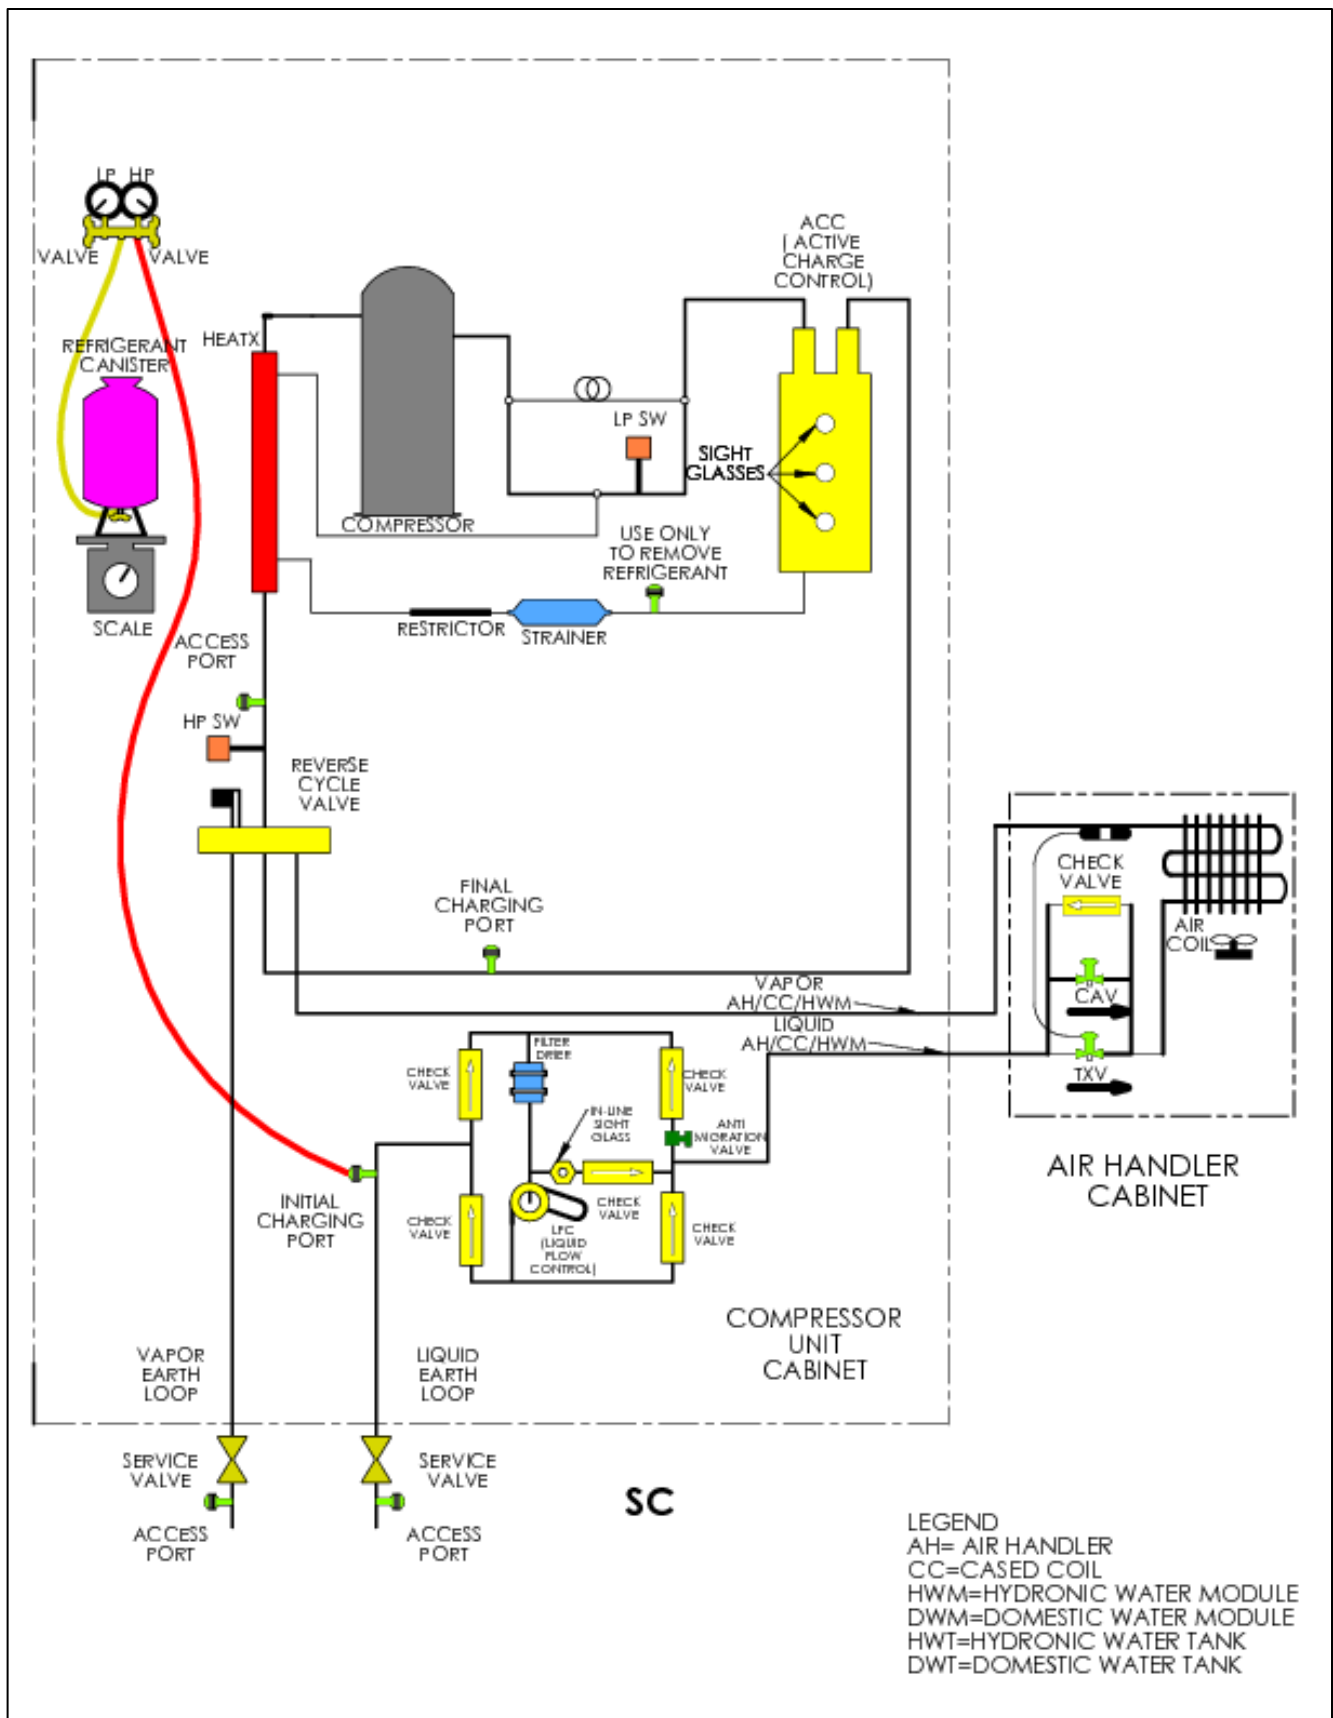
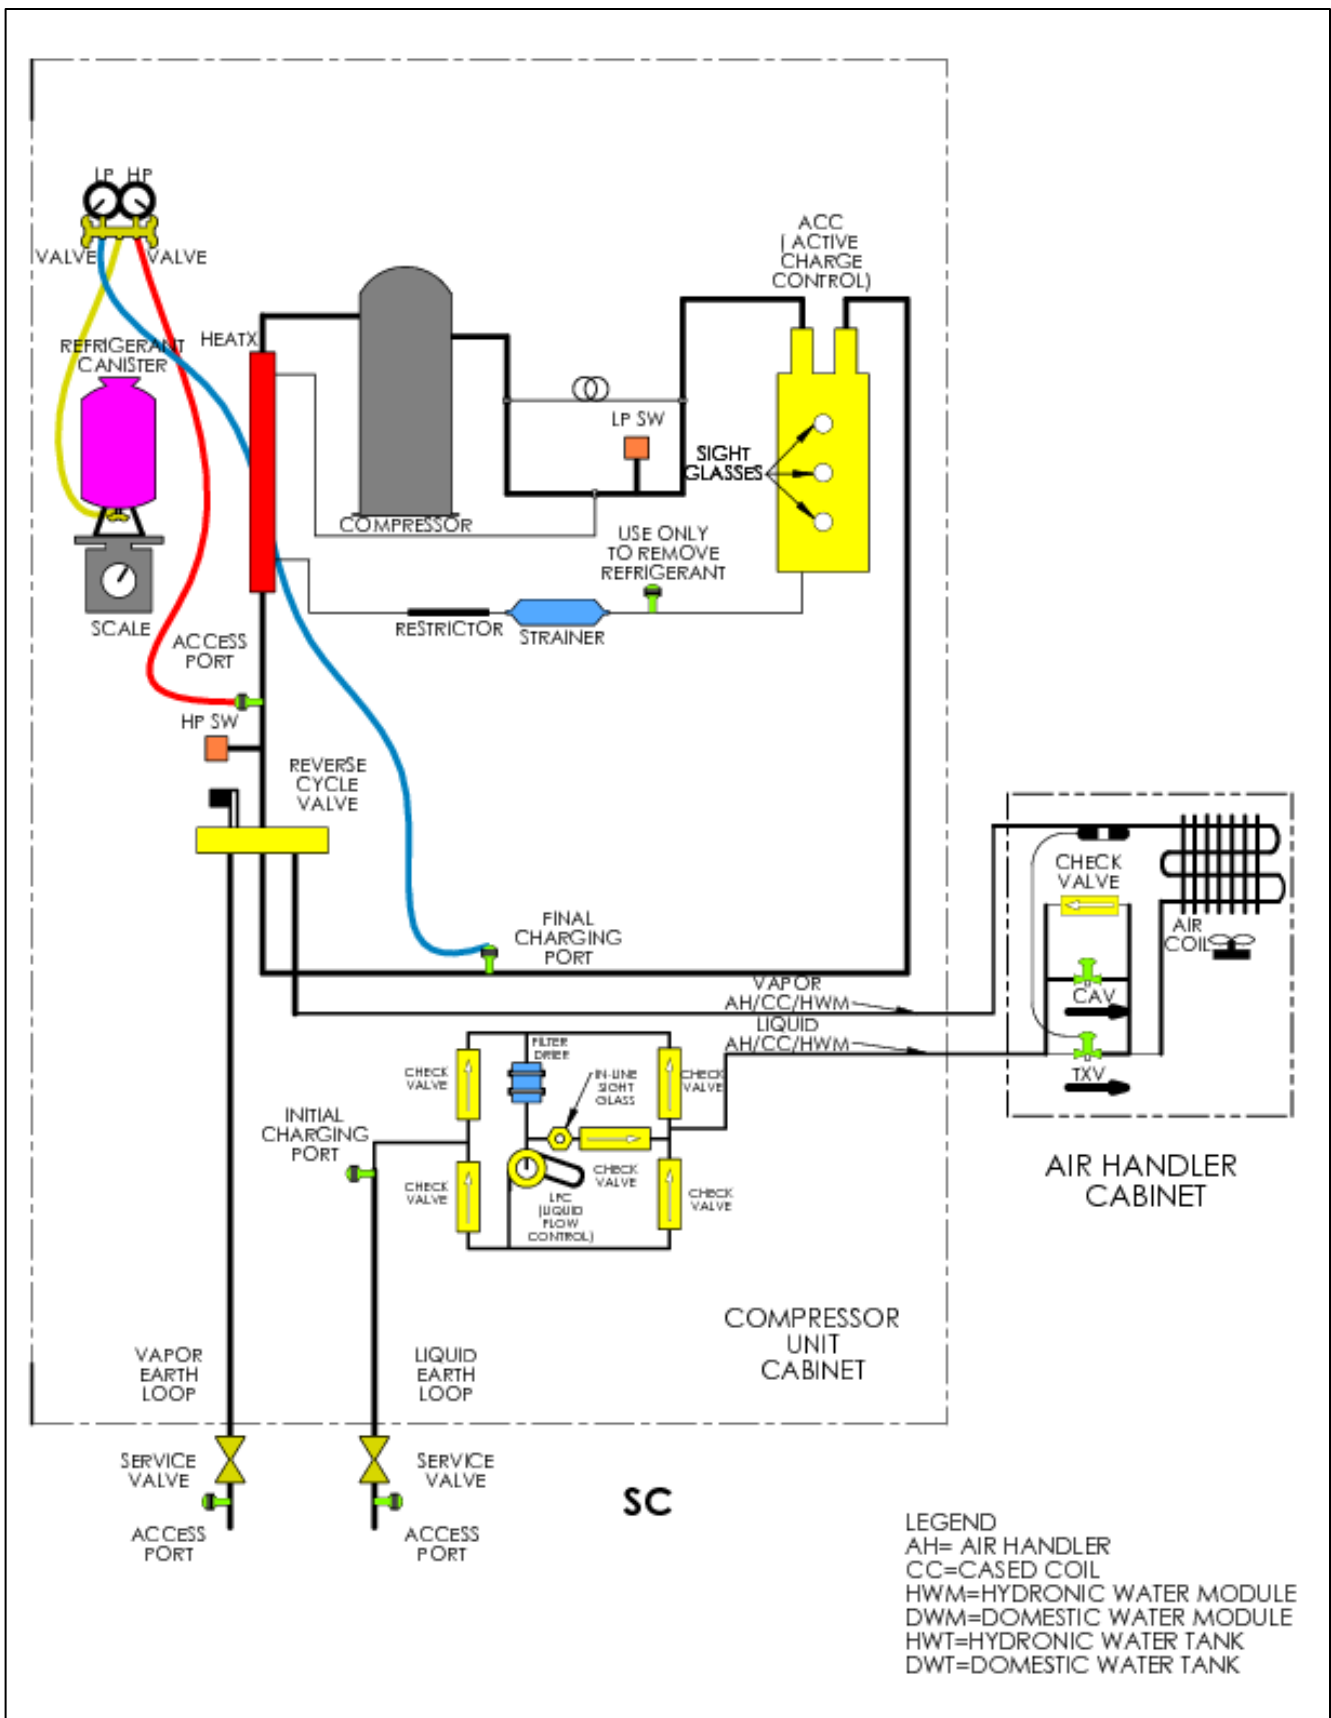

Figure 27. Initial Charge of SC System
Figure 28. Final Charge of SC System
1. Close the LP and HP valves on the gage block. Disconnect and isolate the vacuum pump and digital micron gage. Connect the refrigerant container (on the scale) to the gage block utility hose as shown in Figure 27.
2. Open the refrigerant container valve and inject liquid refrigerant into the initial charging port as shown in Figure 27.
The final charging procedure is as follows, with the final charging set up described in Figure 28.
1. Re-connect the red HP hose, after purging with a trickle of refrigerant, (from the initial charging port in Figure 27) to the access port as shown in Figure 28. Continue measuring the refrigerant charge weight as shown in Figure 28.